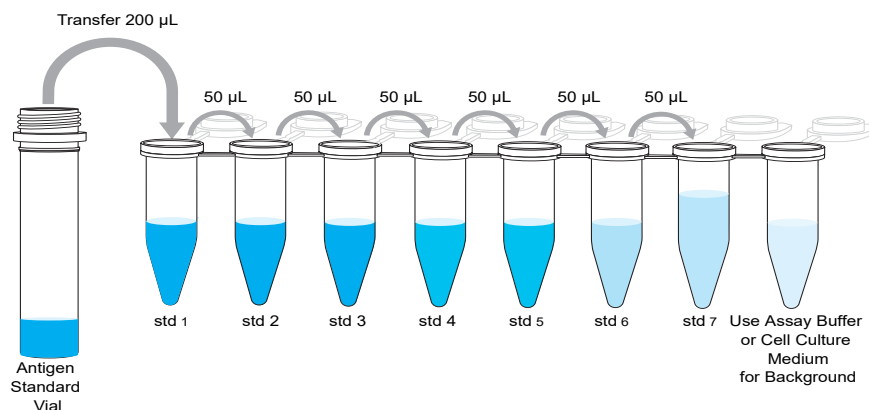

Figure 1 4-fold serial dilution
2. Add 200 µL of the reconstituted standard mix into Std1 tube (see Figure 1).